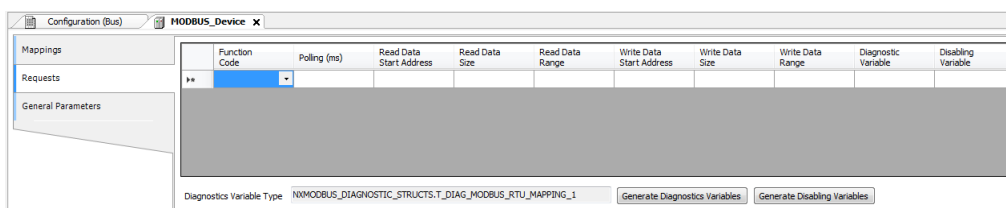

Figure 88: Data Requests Screen MODBUS Master
- Add and configure the MODBUS requests as presented in Figure 88, specifying the function, the scan time of the request, the starting address (read/write), the data size (read/write) and generate diagnostic variables and disabling the request via the buttons at the bottom of the window.